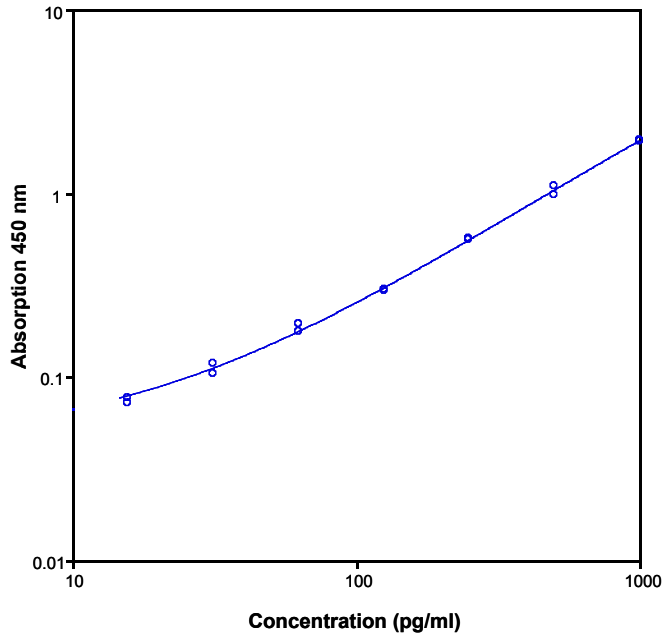

Fig. 8 Representative standard curve for human APO-1/Fas ELISA. Human APO-1/Fas was diluted in serial 2-fold steps in Sample Diluent.
- A representative standard curve is shown in Figure 8.